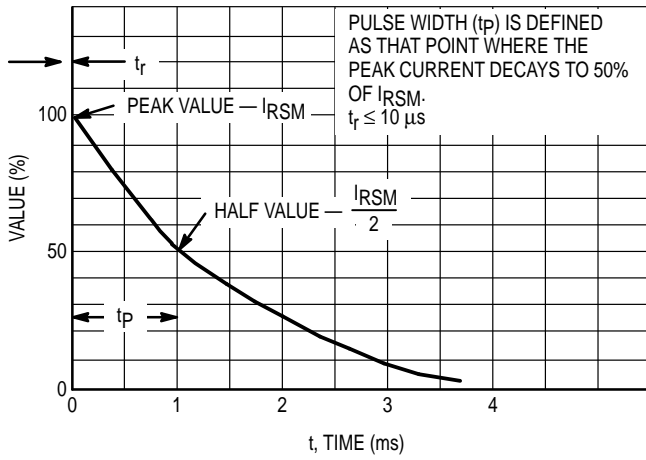
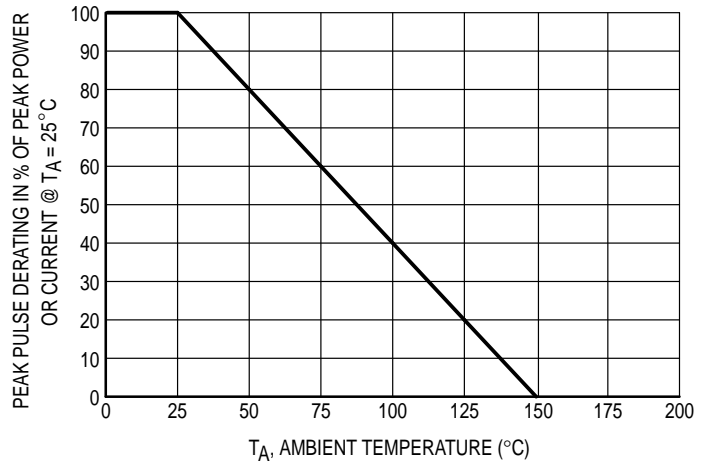

Figure 5. Pulse Waveform
Figure 6. Pulse Derating Curve
- Peak Power — 24 Watts @ 1.0 ms (Unidirectional), per Figure 5 Waveform
(1) Non-repetitive current pulse per Figure 5 and derate above  $T_A = 25^\circ\text{C}$  per Figure 6.
(2) FR-5 = 1.0 x 0.75 x 0.62 in.
(3) Alumina = 0.4 x 0.3 x 0.024 in., 99.5% alumina
(5) Surge current waveform per Figure 5 and derate per Figure 6.
(7) Other voltages may be available upon request. Please contact your Motorola representative.